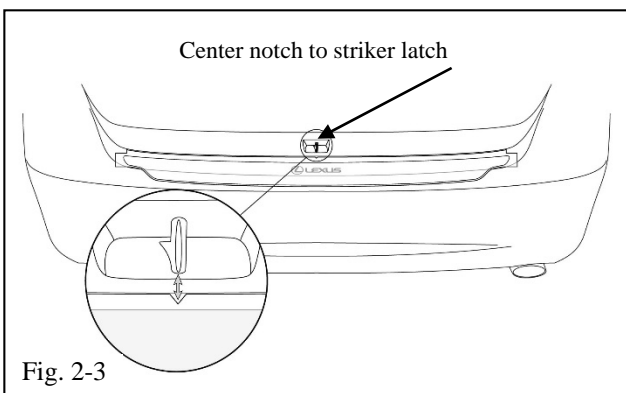

Fig. 2-3
- STOP** (c) Align the center notch directly below the striker latch opening and the leading edge of the premask along the ridge of the bumper. Be sure not to roll the part over the ridge. Do not smooth the part by hand (Fig. 2-3).